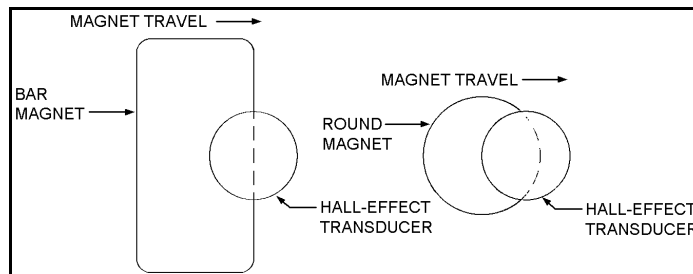

Figure 6-10. Proper Magnet Alignment
- The Hall-Effect transducer senses the magnet when the leading edge of the magnet is approximately at the center of the transducer probe. With this in mind and with the unit at bottom dead-center, position the transducer or the magnet so that the center of the transducer is at the leading edge of the magnet and approximately 1/8 inch from the magnet (See Figure 6-10 for proper magnet alignment.). Tighten all connections securely.